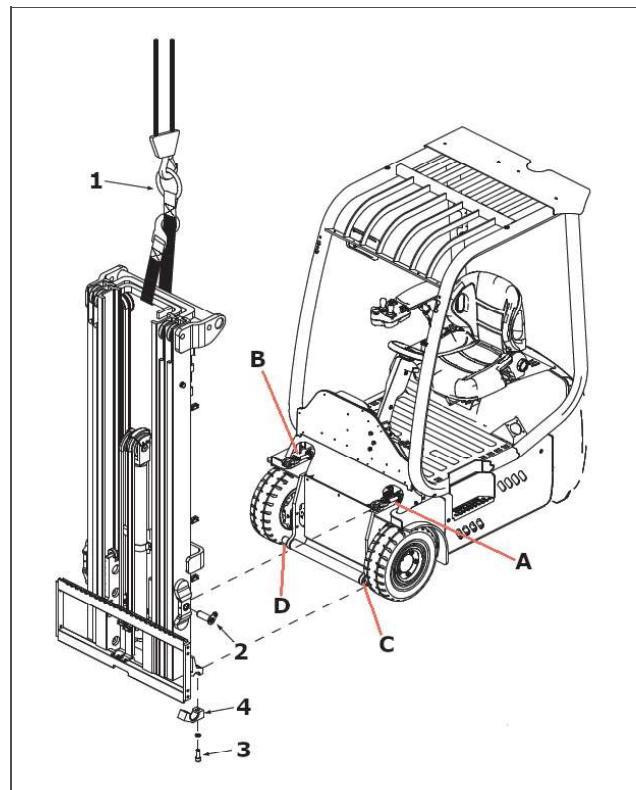

Figure 8-3 Mast Removal
5. Wrap a sling (1, Figure 8-3) around the upper beam of inner and outer masts and slowly lift the sling with a crane. Just lift it enough to put tension on the sling;
6. Remove the shafts (2) between the outer mast and tilt cylinders (A and B).
7. Remove the bolts (3) and remove the mounting blocks (4) between the outer mast and chassis (C and D)